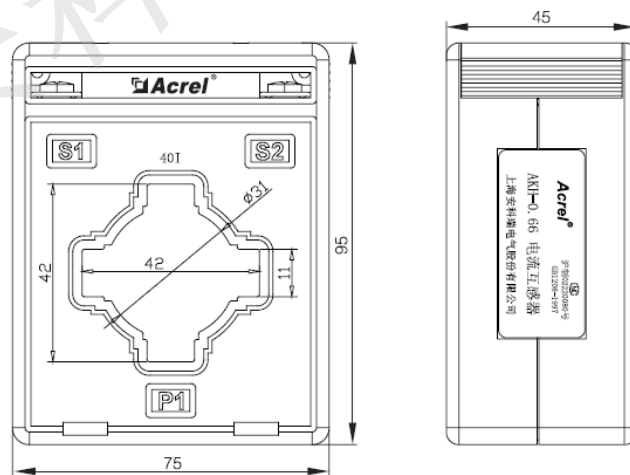

FIG. 10 External dimensions of current transformer 250A
5.3.2 The external dimensions of the 250A current transformer are shown in FIG. 10 (unit: mm) : The current specification of the protector is the current transformer matched at 250A. There is no secondary connection wire. One protector is equipped with three transformers.